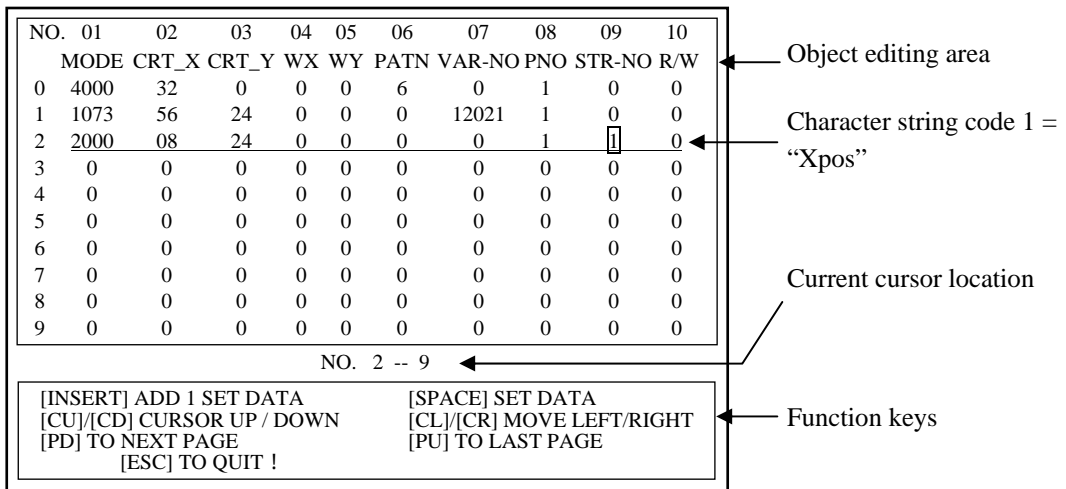

Fig 12-16 Object Editing Including "STR-NO"
Step 2: Return to main function screen. Press [TAB] key to get into object editing area. Edit object data including "STR-NO" as in Fig 12-16.